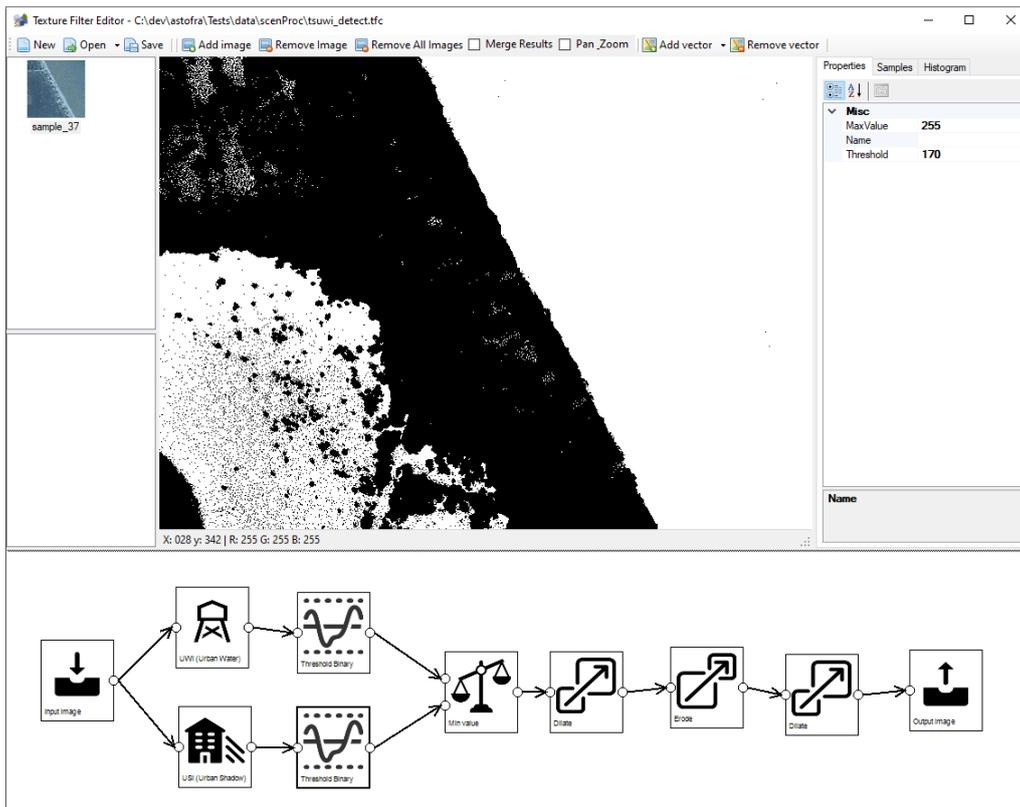

Figure 6.43: Applying a threshold to the USI value to select areas without shadow
5. Binary threshold with a value of 170 to select only the areas with a less shadow, see Figure 6.43.